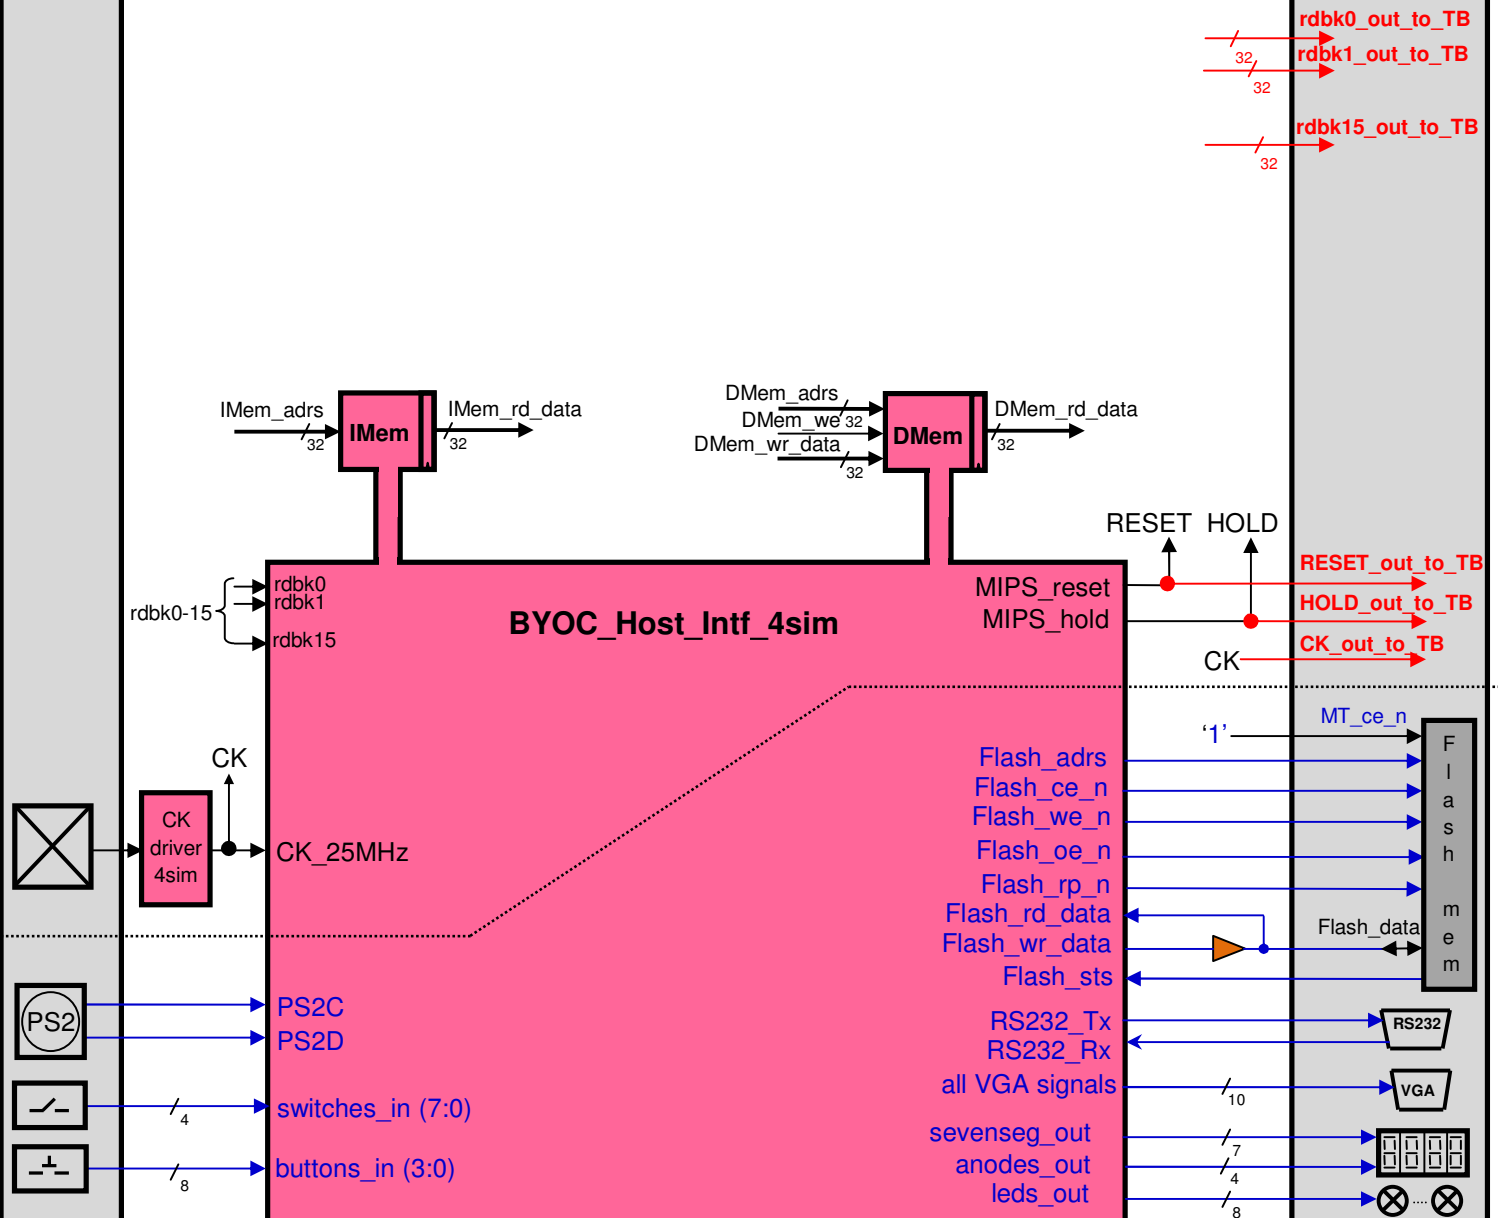

Fig. 2 – The infrastructure for simulating a design
In Fig.2 below you can see the scheme describing a simulation project. Everything is “wrapped” by the Test Bench (TB). The top.vhd file (e.g., HW2_top.vhd, or HW4_MIPS.vhd etc.) will include a **Clock_Driver** component which divides the 50 MHz input clock to a 25 MHz clock signal that will be used by our design. It will also include the **BYOC_Host_Intf** component (actually the **BYOC_Host_Intf_4sim**). And, of course, it will include your design. Your design will be activated by the CK, RESET and HOLD signals coming out of the **Clock_Driver** and the **BYOC_Host_Intf** components. Your design will “output” signals to the TB. The TB will “read” these signals during the simulation and will compare them to a pre-prepared dat file that has the expected values of these signals. The output signals to the TB are drawn in **red**. These are: